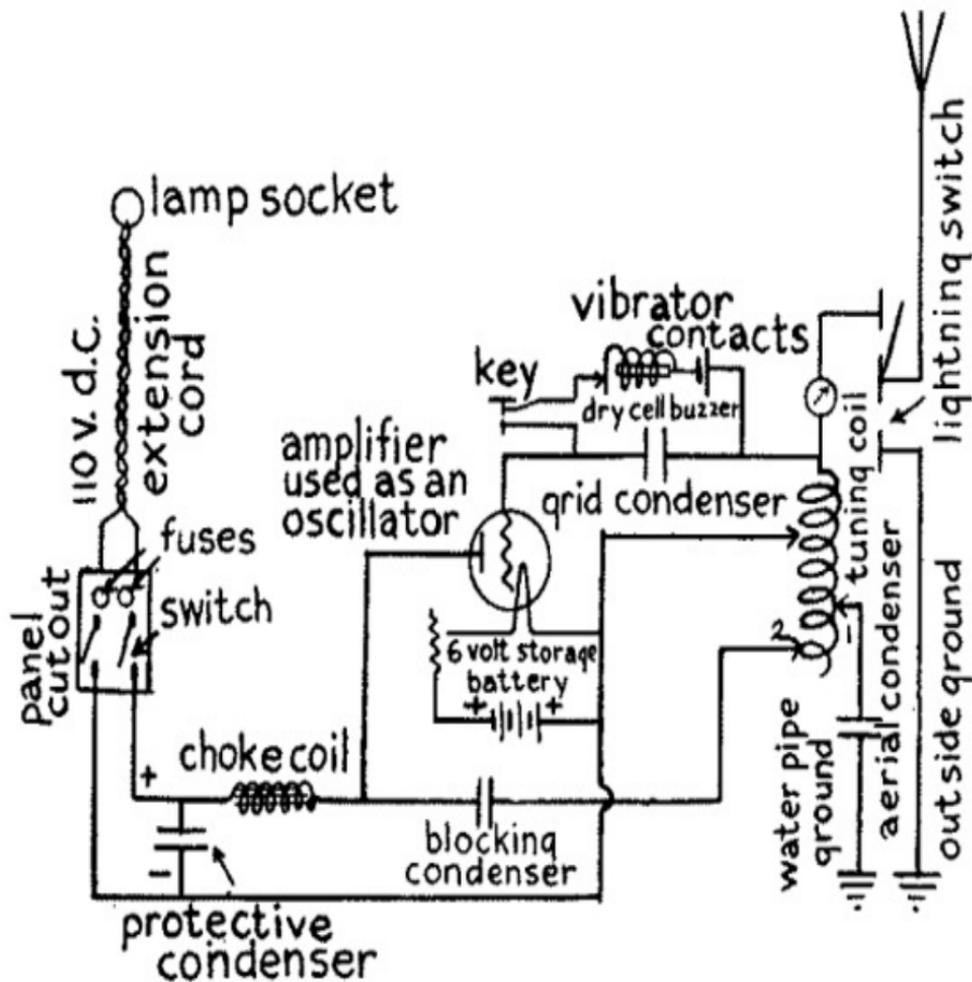

FIG. 76.—Experimental C. W. Telegraph Transmitter.
*Connecting Up the Transmitting Apparatus.*--The way the various pieces of apparatus are connected together is shown in the wiring diagram. *Fig. 76*. Begin by connecting one post of the ammeter with the wire that leads to the aerial and the other post of it to one end of the tuning coil; connect clip *1* to one terminal of the .002 mfd. 3,000 volt aerial condenser and the other post of this with the ground.